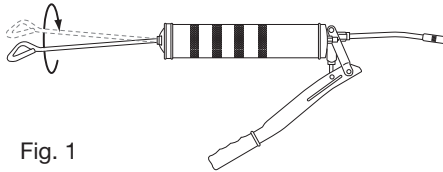

Fig. 1
7. Depress the lock on the rod then rotate and wobble the end of the rod to help the plunger slide inside the cartridge — refer to diagram **Fig. 1**.